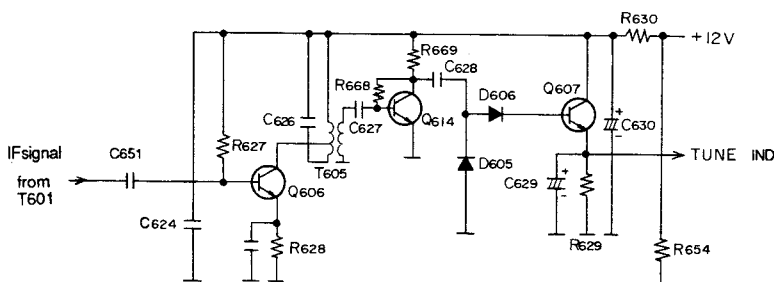

Fig. 50
- 5) If there is a difference between them adjust Heading ADJ control (VR157) on the Adjustment board of the CRT unit. If relative bearing difference is beyond adjustable range ( $+1^\circ$ ) by VR157, adjust the position of the Magnetic Sensor Board (heading detector) as shown Fig. 50